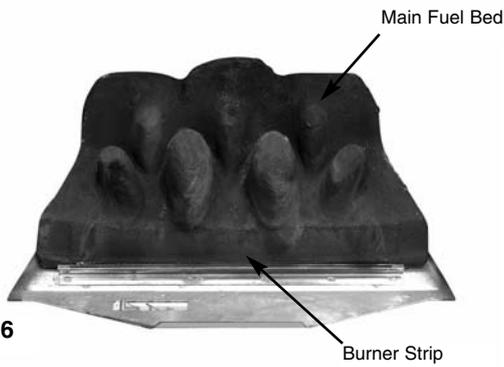

Fig. 36
1. Place the main fuel bed on to the middle section of the metal burner tray. It is important that the front edge of the fuel bed is located behind the burner strip (Fig. 36).